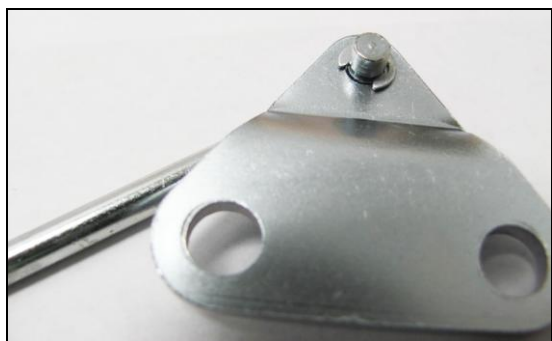
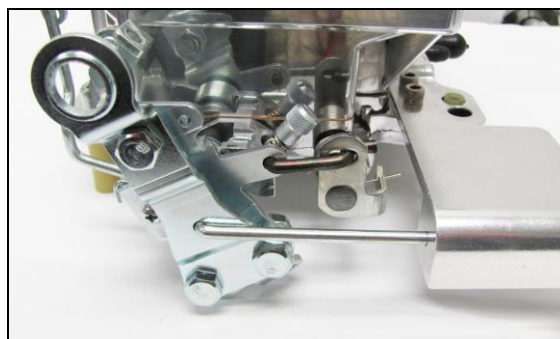

Figure 1
Figure 4
2. Install the retainer clip to secure the connector rod to the bracket as shown (Fig. 1).
**NOTE:** If utilizing the GM throttle extension lever (Kit # 1952), the throttle lever bracket supplied with TPS kit will not be used (Fig. 1). The connector rod will install directly to the GM throttle extension lever (Fig. 4).